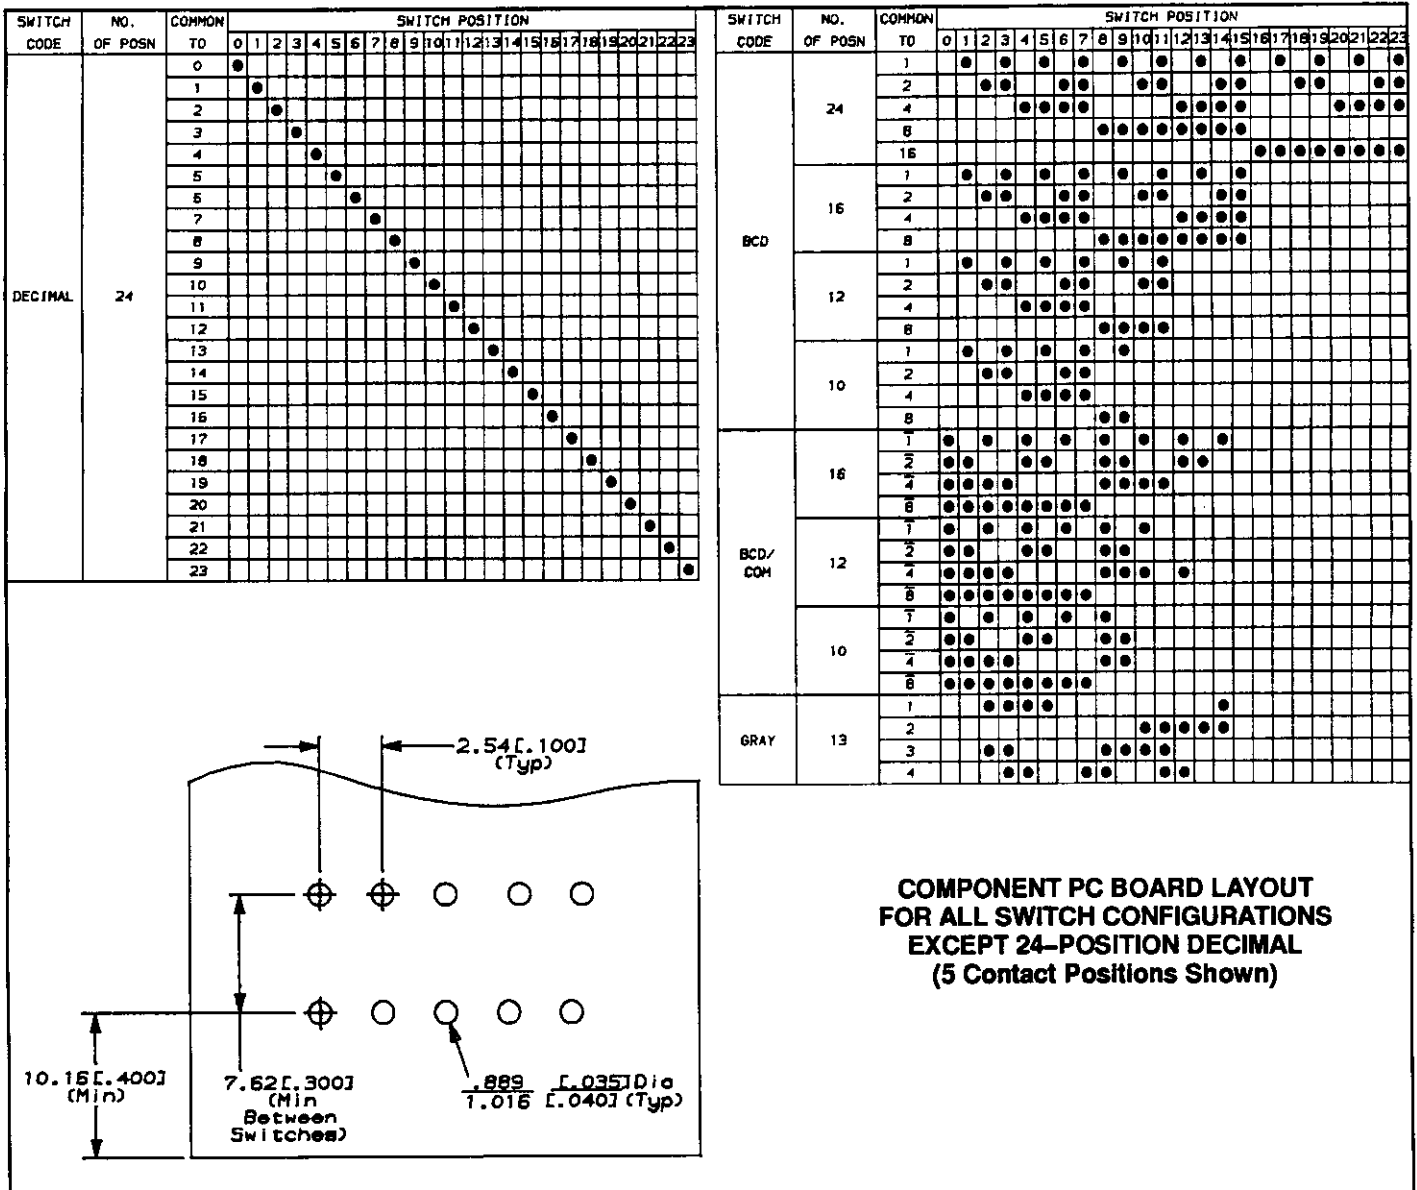

Fig. 2
2. Refer to the chart in Figure 2 and select the switch description that will suit your needs.
2. Make a layout on your pc board using the dimensions shown in Figure 2.
The Identity of each circuit pad provided in Figure 1 corresponds to the COMMON TO arrangement in the chart in Figure 2.